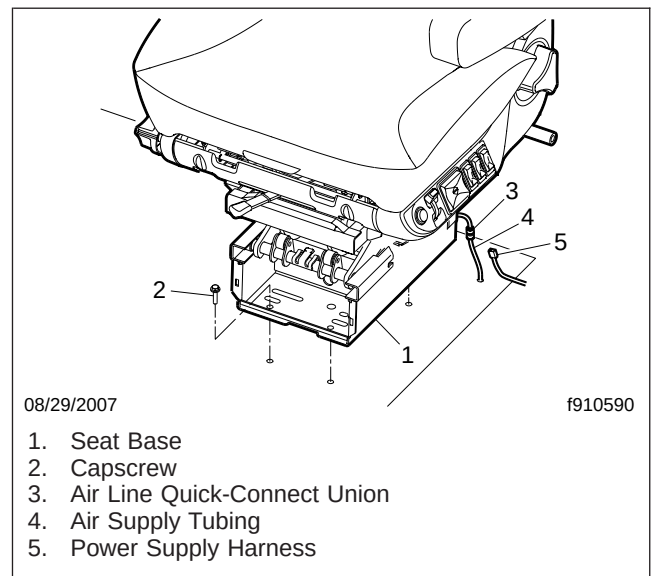

Fig. 2, Seat Installation
6. If equipped with a seat heater, disconnect the power supply from the seat; see Fig. 2.
9. Remove the four capscrews that attach the seat to the cab floor; see Fig. 2. Remove the seat from the cab.
1. With the vehicle tires chocked, position the seat on the cab floor. Attach the seat to the cab floor with four capscrews; see Fig. 2. Tighten the capscrews 16 to 18 lbf·ft (22 to 25 N·m).